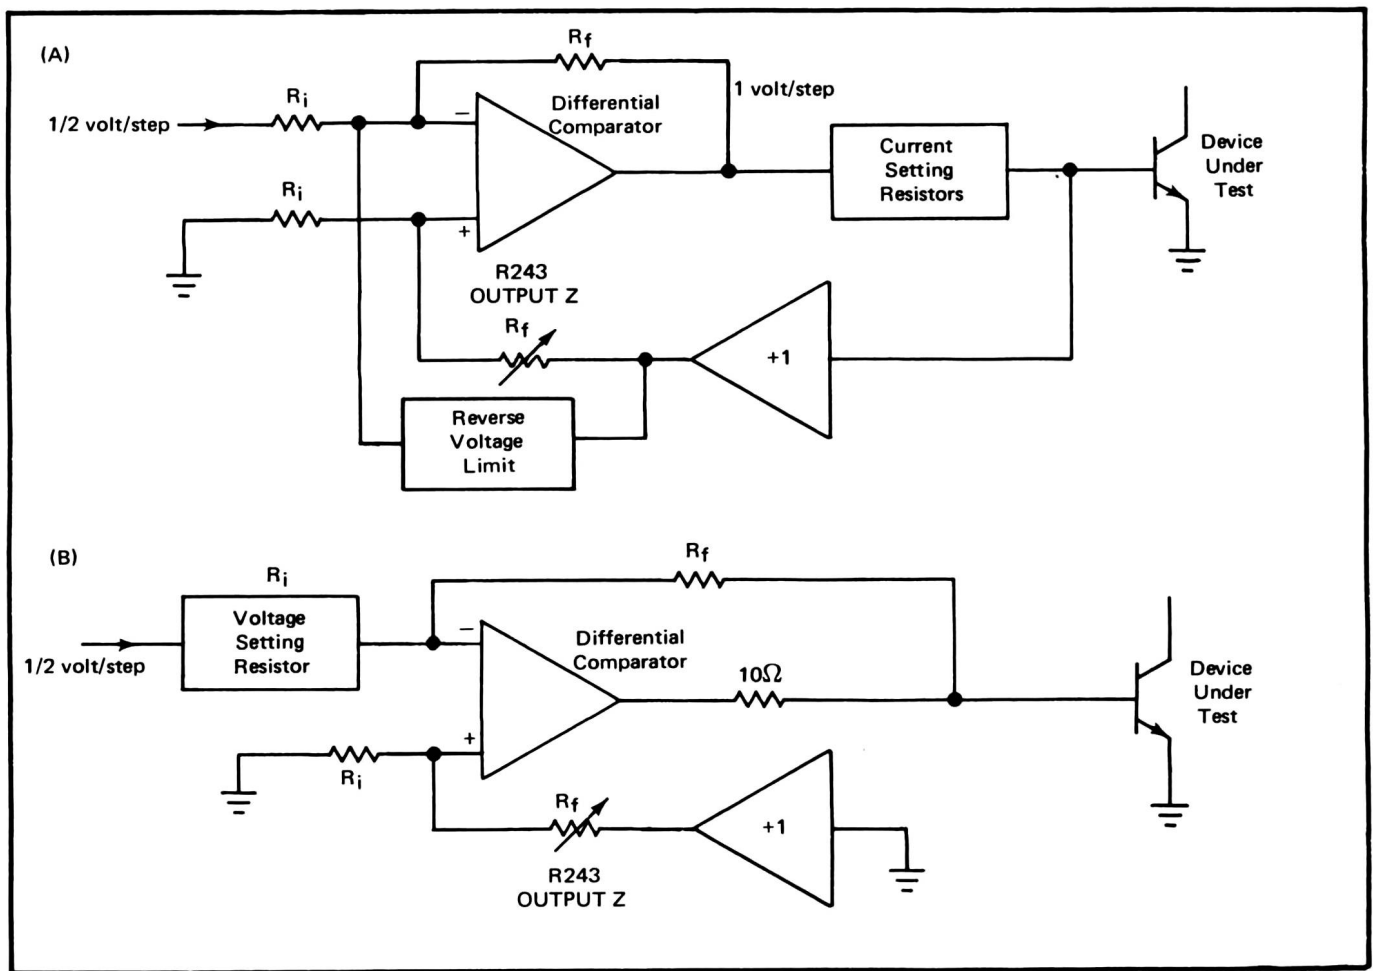
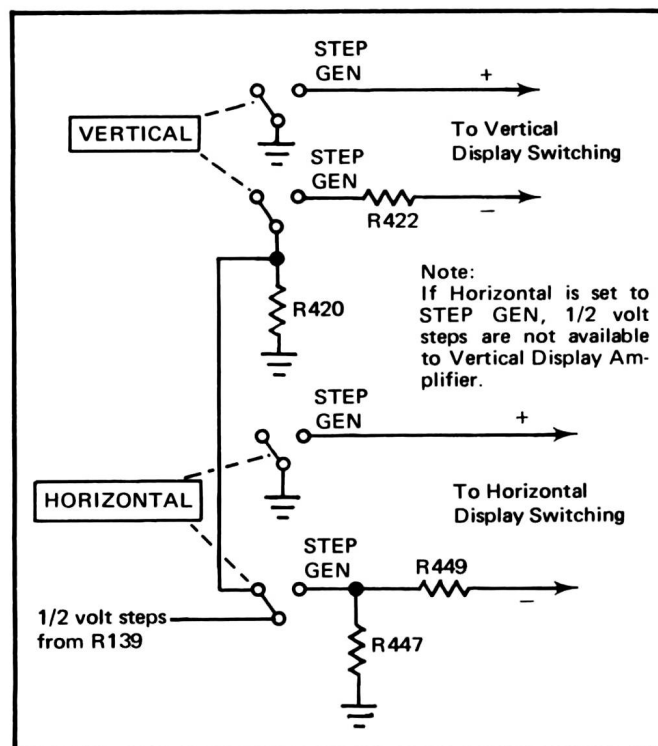

Fig. 3-7. Block diagram of Step Output Amplifier: (A) Current Mode, (B) Voltage Mode.
Fig. 3-11. Simplified schematic of Display Sensitivity Switching when VERTICAL and/or HORIZONTAL switches are set to STEP GEN.
**Display of Step Generator.** If either the VERTICAL or the HORIZONTAL switch is set to STEP GEN, the 1/2 volt steps at the input to the output amplifier section of the step amplifier (see Fig. 3-7) are applied to the inputs to the vertical display amplifier or the horizontal display amplifier (see Fig. 3-11). If both switches are set to STEP GEN, the 1/2 volt steps are applied to the Horizontal Display Amplifier only.